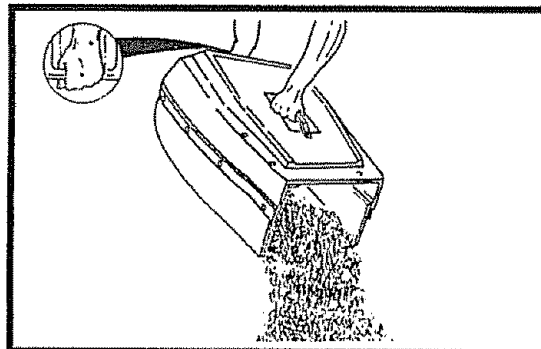

FIG. 7
- Empty by shaking catcher with open end and downward (See Fig. 7).